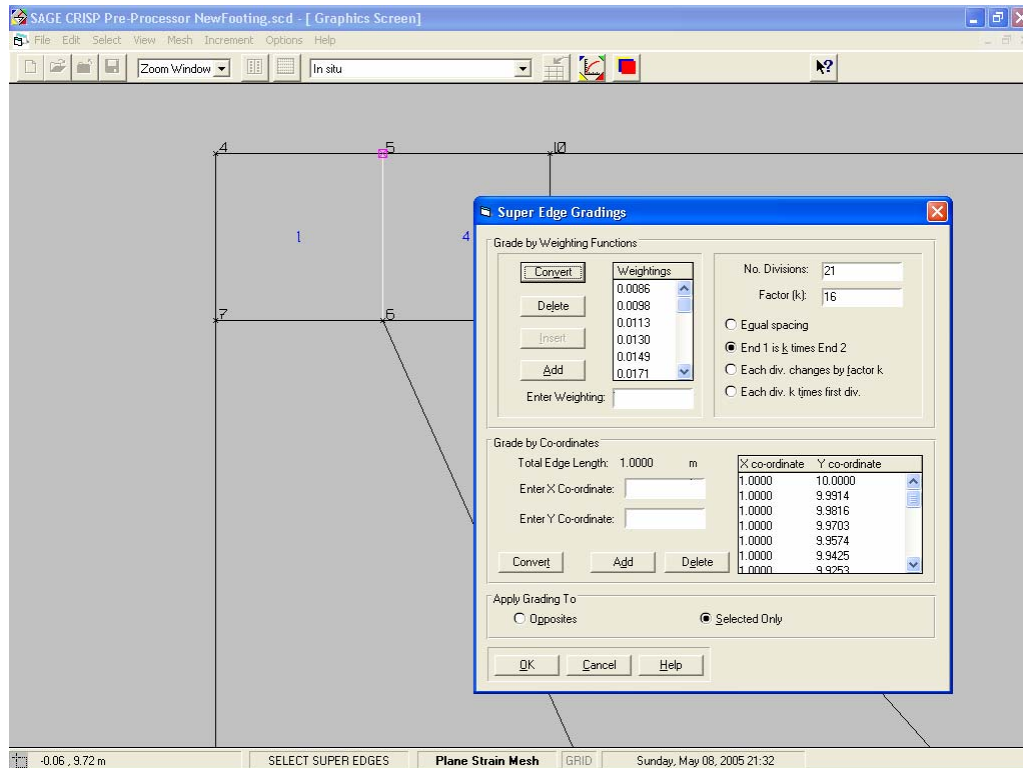

Figure 12 Defining Edge Gradings near the footing corner
- Step 12** Enter '21' into the Number of Divisions text box and click on the End 1 is  $k$  times End 2 option. Enter '16' into the Factor (k) text box. Weighting values will be automatically entered and the dialogue box should now look like Figure 12